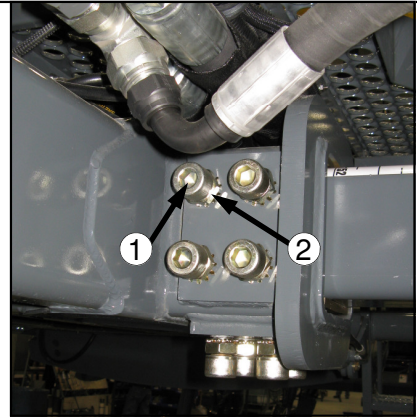
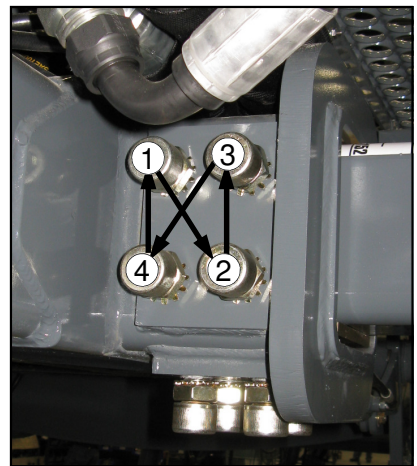

FIG 7.96-1
FIG 7.96-2
LEG BEARING TORQUE- With the engine turned off, visually inspect the tread bearing bolts on both the bottom and the side (fig. 7.96-1) every 50 hours. Torque check them every 100 hours.
1. Loosen the jam nut (fig. 7.96-1, item 2) on each bearing bolt.
2. Using an "X" pattern (fig. 7.96-2) verify current torque on each bolt (fig. 7.96-1, item 1) is equivalent to last check from 100 hours previous. Repeat torque pattern a second time.